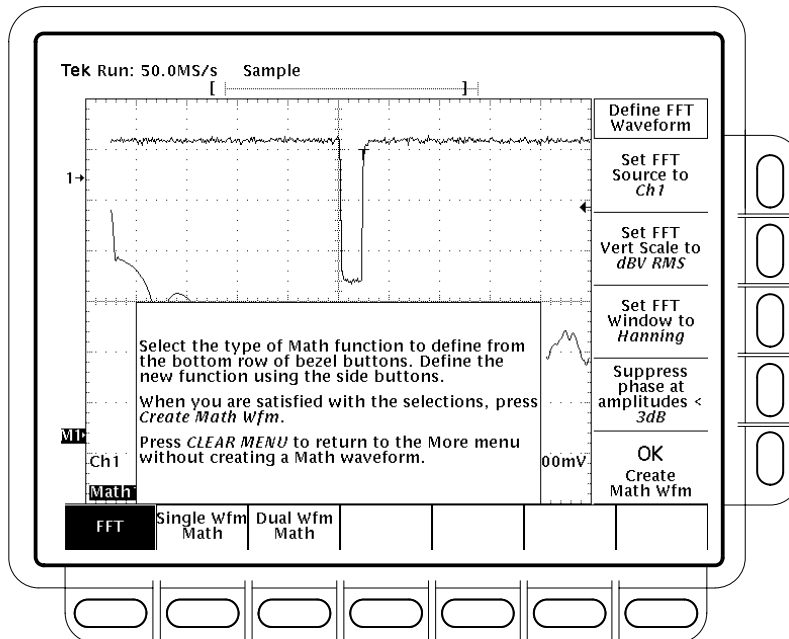

Figure 3-97: Define FFT Waveform Menu
5. If the selected math waveform is not FFT, press **Change Math Definition** (side) → **FFT** (main). See Figure 3-97.